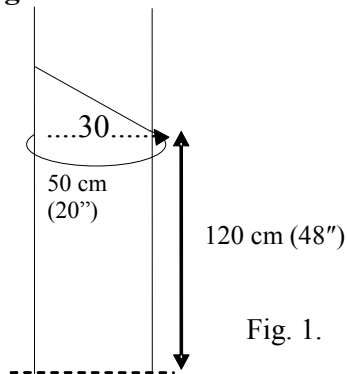

Fig. 1.
- 70% of the trees should have a girth of 50 cm or above measured at 120 cm from the highest point of the grafted union (Fig. 1).
- Height of opening - the lower end of the tapping cut should be at 120 cm from the highest point of the grafted union (Fig. 1).
- Tapping angle should be  $30^\circ$  to the horizontal plain (Fig. 1 & 2).